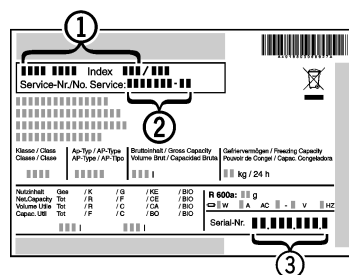

Fig. 9
- Read the appliance designation *Fig. 9 (1)*, service no. *Fig. 9 (2)* and serial no. *Fig. 9 (3)* from the rating plate. The rating plate is located inside the appliance on the left-hand side.
- Notify a qualified service provider, specifying the fault, appliance designation *Fig. 9 (1)*, service no. *Fig. 9 (2)* and serial *Fig. 9 (3)* no.